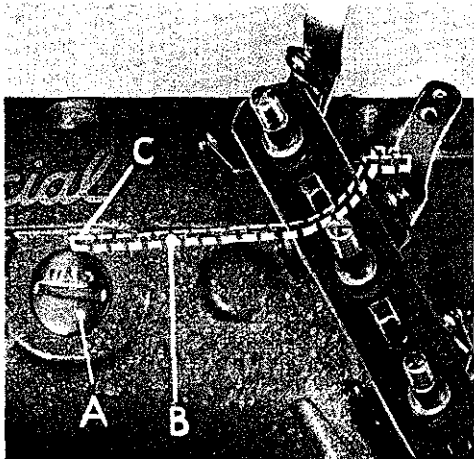

Fig. 1
Observe the location of the needle lever stud (A, Fig. 1). The head of the needle lever stud is marked with an arrow and the word "UP". These studs are set correctly when the arrow points vertically up. Also check the position of the needle lever bearing oiler (B) inside the arm casting, which lubricates the needle lever stud. Make sure it is tilted downwardly and that its delivery end (C) contacts the inside wall of the bed casting at the back, just above the notch of the needle lever shaft stop collar. Do not allow the oil tube to rest on the needle lever.